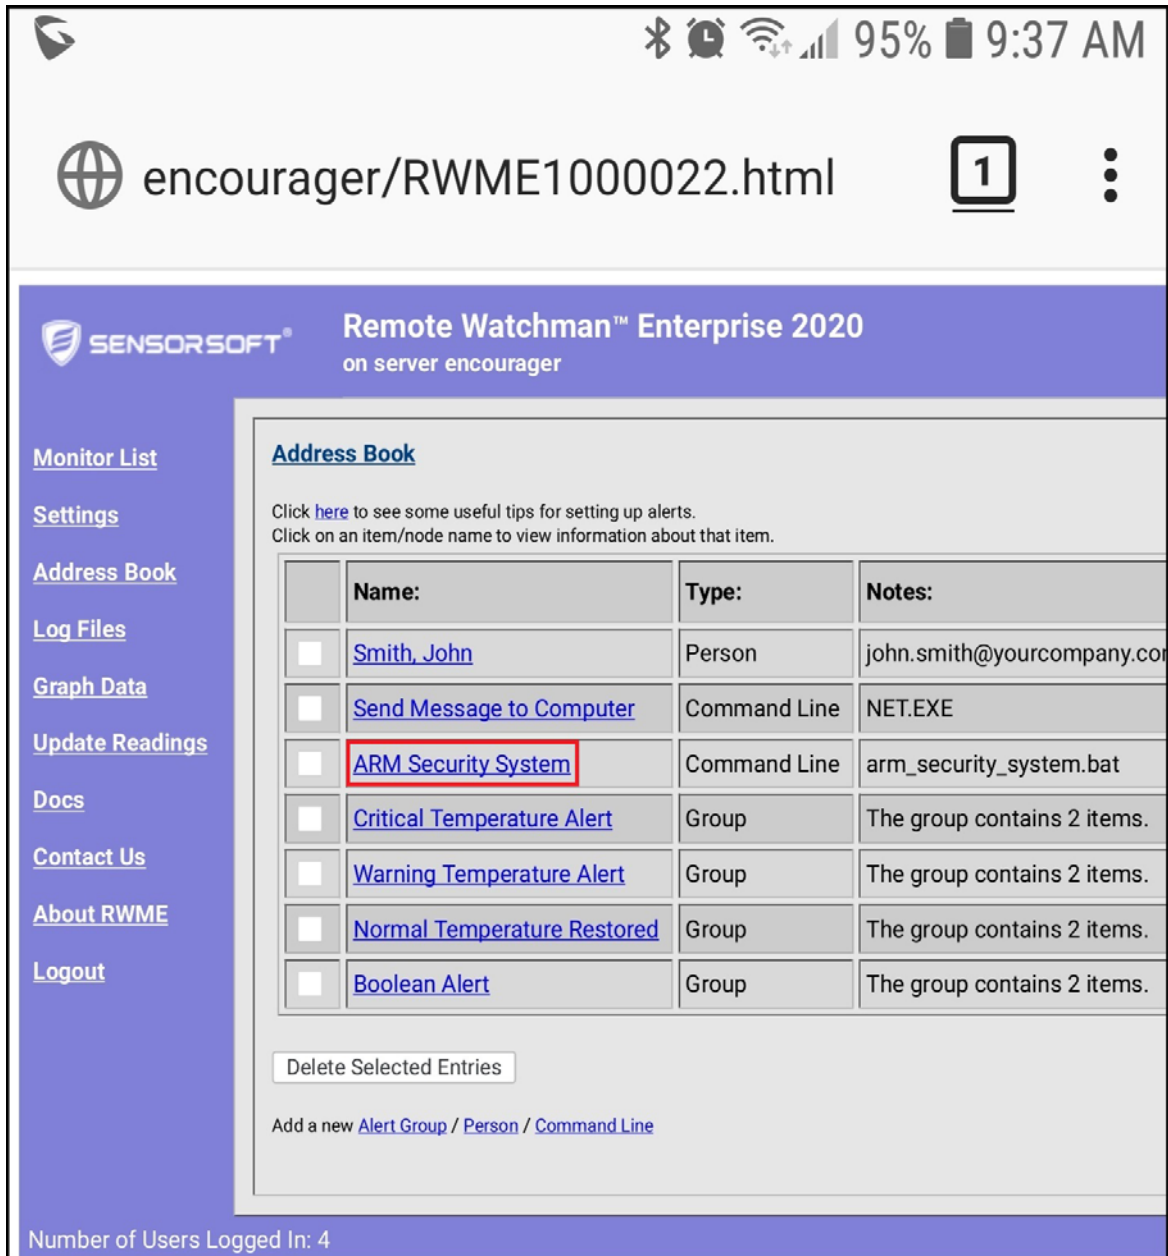

Figure 17: Smart phone screen with Command Line link shown
6. Tap the RWME command line name you want to add as in Figure 17.